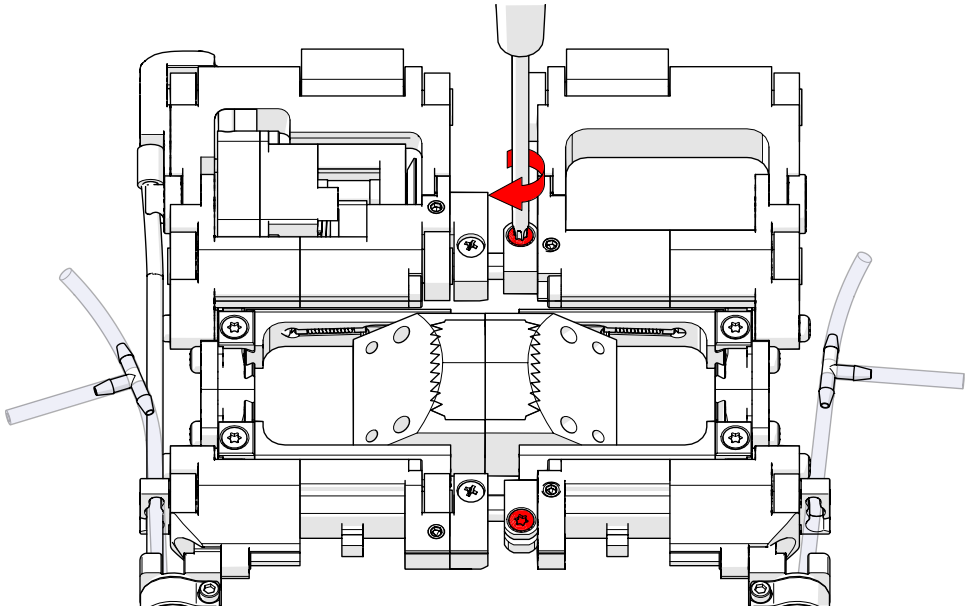

Fig. 76 - Tighten wedge separation indicator clamp screws
7. Tighten the wedge separation indicator clamp screws (Fig. 76).